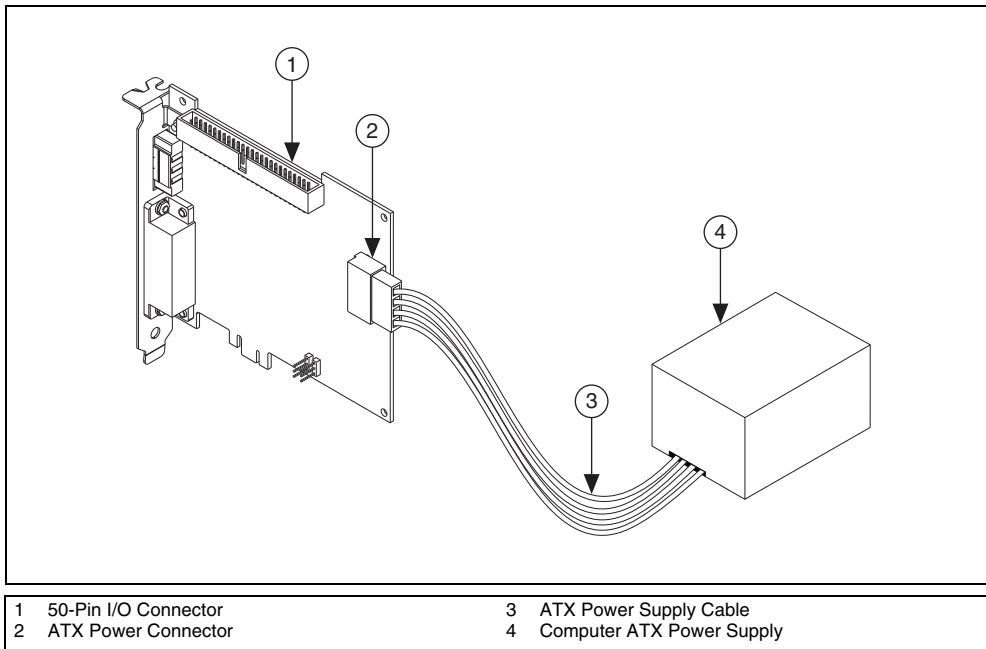

Figure 1. Connecting the Power Supply
8. To provide power to your camera, connect an unused power connector from the ATX power supply on your computer to the camera power ATX connector on the I/O Extension Board. Figure 1 shows how to connect the power cable from your PC power supply to the ATX power supply connector on the I/O Extension Board.